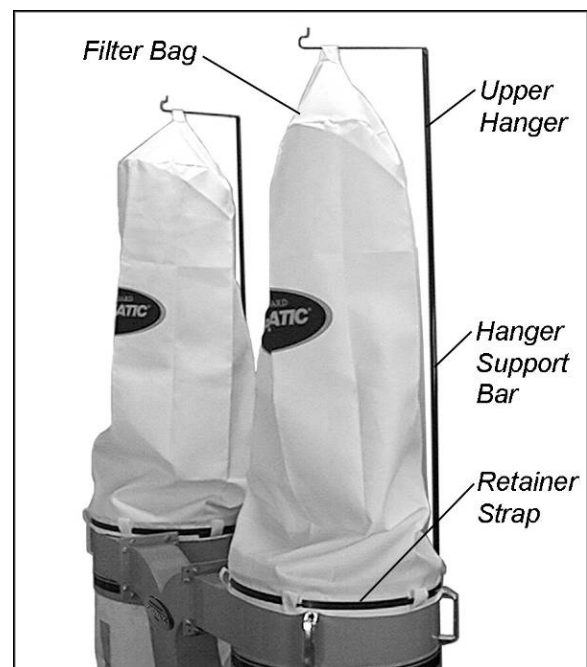
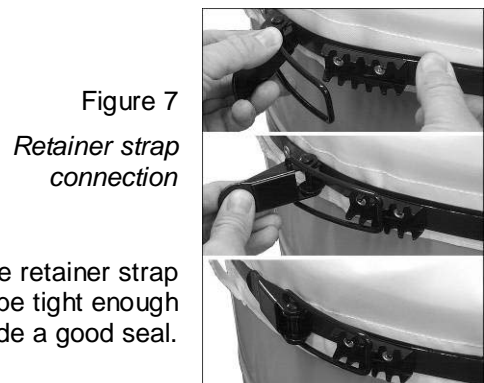

Figure 6
Figure 7
6. Connect the *upper hanger* to the *hanger support bar* (Figure 6).
8. Unroll the *retainer straps* (Figure 6). **CAUTION:** Retainer straps are coiled under tension. Maintain a firm grip on each one while unrolling it.
9. Thread the *retainer strap* (Figure 6) through the loops on the filter bag, and fasten it to the collector housing, as shown in Figure 7.